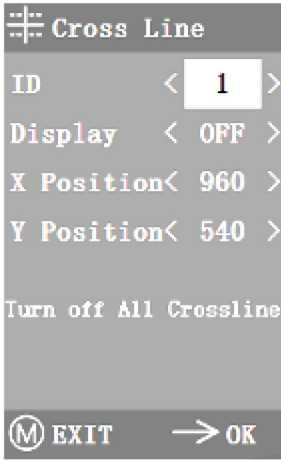

Figure 5-6
- Enter the Cross Line menu, as shown in Figure 5-6. "ID" refers to the number of each group of crosslines. "Display" adjusts whether the reticle is displayed. "X position" and "Y Position" adjust the position of the center point of the reticle